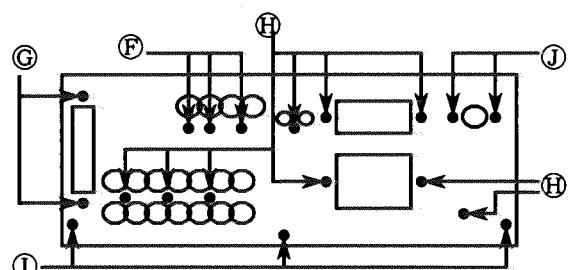

FIG.3 Rear side
2. Remove 17 screws Ⓑ, Ⓒ, Ⓓ, Ⓔ and Ⓕ. (Remove 2 screws Ⓕ. Universal version only)(FIG.3)
2. Remove 2 screws Ⓒ.(FIG.3)
5. Remove 3 screws Ⓗ.(FIG.3)